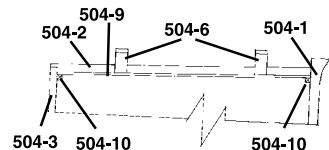

Fig. 3
3. Chimney backs (Fig. 3 and 4): The styrene roof 504-9 will be glued to the bottoms of the four chimney backs. Note: The roof slopes downward from the front of the building to the rear. Accordingly, the bottoms of the chimney backs slope in the same direction...the two 504-5 backs slope downward from the left to right and 504-6 slope the opposite way. File draft angle off bottoms of the chimneys so top of roof will glue flush to them. Glue chimney backs in their proper places and, when joints are completely set, file tops flat and square.
9. Install roof through bottom of building and glue to underside of chimney backs (Fig. 3). Cut two roof supports 504-10 to fit between side walls. Glue one to bottom of roof and to back of front wall...the other to bottom of roof and the rear wall.